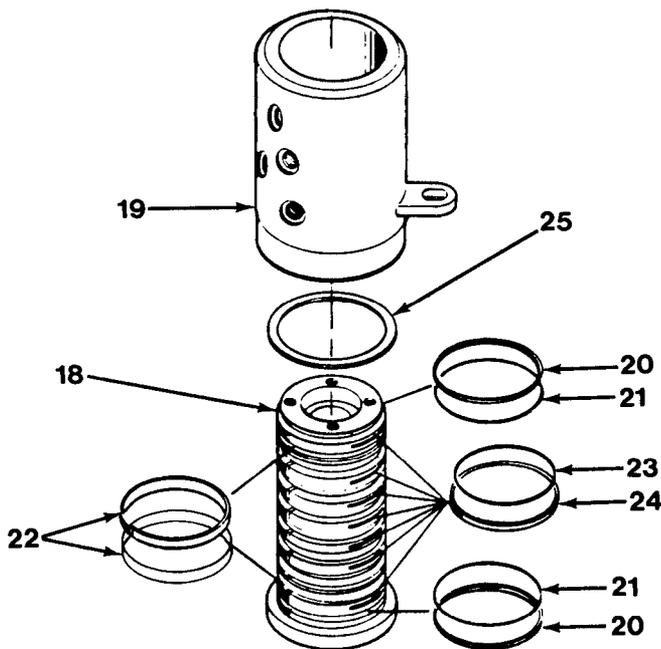

Figure 13-5
2. Remove spool (18) from case (19, Figure 13-5) by pushing spool (18) out while holding case (19).
3. Remove back-up ring (20) and O-ring (21) from spool (18).
4. Remove two wear rings (22), seven teflon seals (23) and rectangular rings (24) from spool (18).
5. Remove O-ring (21) and back-up ring (20) from spool (18).
6. Remove and discard thrust washer (25) from spool (18).
1. Install thrust washer (25) on spool (18, Figure 13-5).
2. Install back-up ring (20) and O-ring (21) on spool (18).